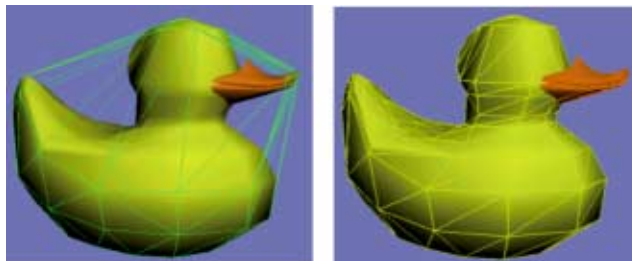

Figure 15: convex and concave representations of a rubber duck
- **Convex:** imagine wrapping the object in a cellophane wrap – if the cellophane touches every part of the surface (i.e. there are no hollows in the surface that the cellophane does not reach) then it's convex. Alternatively, pick a point inside the object and any direction: follow this direction out of the object and if you only ever pass through the object's surface once, it's convex. Figure 15 depicts some rigid body simulations using entirely convex objects.
In Figure 15, the duck is shown represented as a convex object (the skin defined in the image on the left) and the true concave geometry on the right.